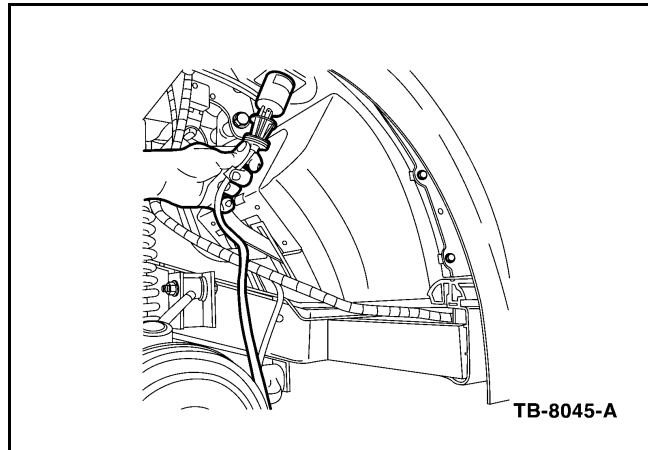

Figure 4 - Article 04-24-9
1. Remove the driver's side inner wheel well by extracting the four (4) rivets that hold the wheel well in place.
2. Remove the charger AC cord from vehicle and the AC plug from plug housing (Figure 4).